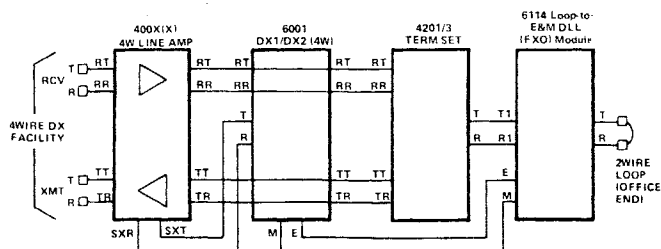

figure 3. 6114 in 4wire DX-to-loop application
Figure 3 shows one possible application; used with a Tellabs 6001 DX Signaling module, the 6114 provides an FXO termination with DX facility signaling.
2.09 In 2wire applications, no external facility-interface module is needed because the 6002 and 6041 modules contain the necessary repeat coil. In 4wire applications, such as that shown in figure 3, additional modules may be required. On the 6114's facility side, a line amplifier (e.g., a Tellabs 4001) or a pad/transformer module (e.g., a Tellabs 4411) must be used to derive transmit and receive simplex leads for inputs from the facility to the 6001. (As an alternative, the 6044 Network Terminating Module can be used in lieu of a 6001 and 4001/4411 combination.) On the office side, a term set (e.g., a Tellabs 4201 or 4203) provides the 4wire-to-2wire termination and level control. Alternatively, the 6042 Network Terminating Module can be used to provide the 4wire-to-2wire termination, level control, and DX signaling required in a 4wire DX-to-loop application.